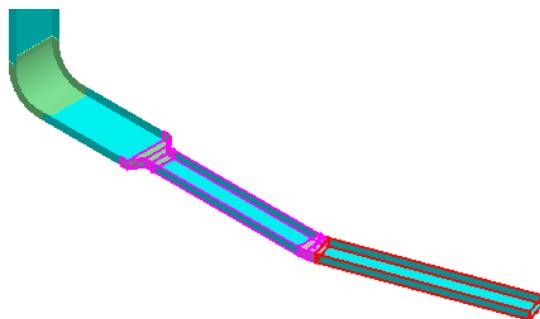

Figure 55: Selected All Features Between the Transition Feature and the Straight Feature
7. Select all features between the transition feature and the straight feature you just placed, as shown in Figure 55.